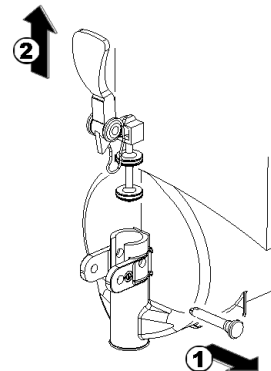

figure 12
- 5** Dismantle the faucet assembly (see figure 12).
3 Assemble the faucet by reversing the disassembly steps (see figure 12)